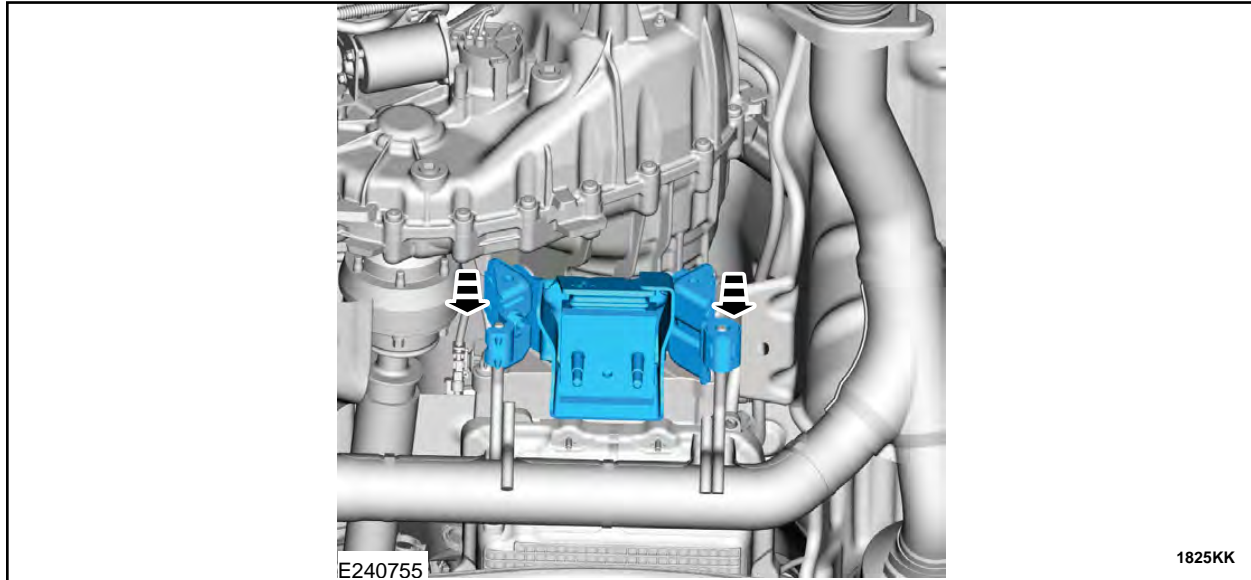

FIGURE 36
56. Install the transmission support insulator. See Figure 36.